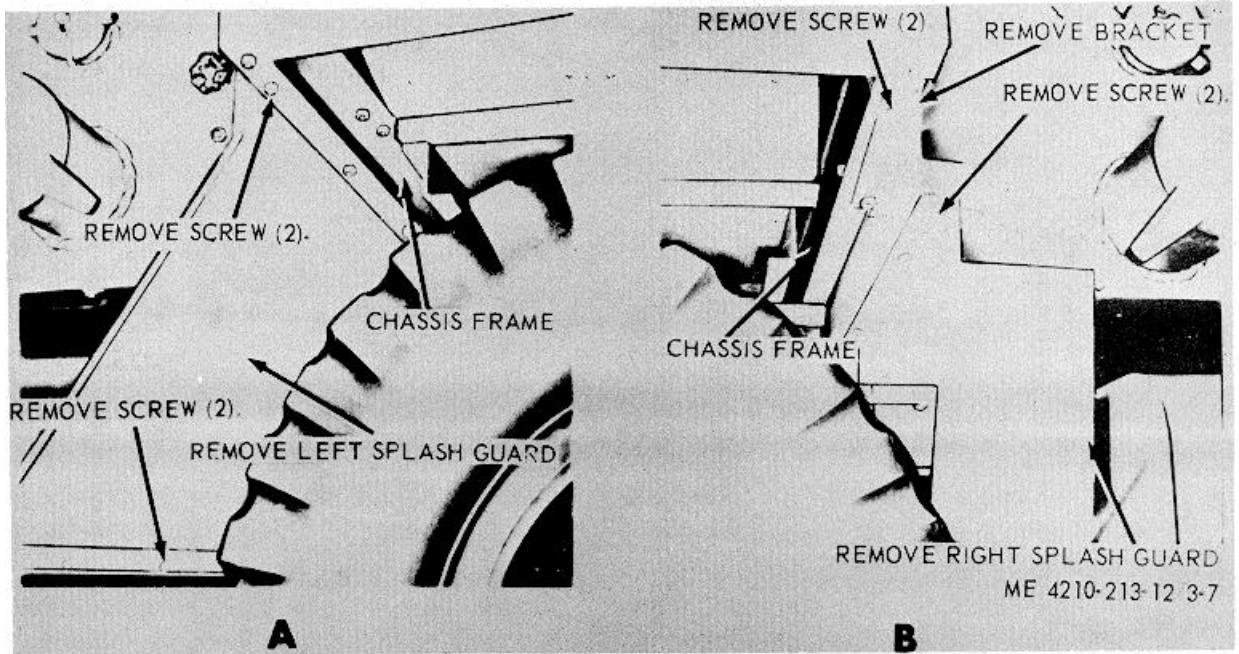

Figure 3-7. Splash gaurds, removal and installation
a. *Removal.* Refer to figure 3-7 and remove the splash guards from the truck chassis.
(1) Clean all parts with an approved cleaning solvent, and dry thoroughly.
(2) Inspect all parts for damaged or defective condition.
(3) Replace or repair damaged or defective parts as necessary.
c. *Installation.* Refer to figure 3-7, and install the splash guards on the truck chassis.